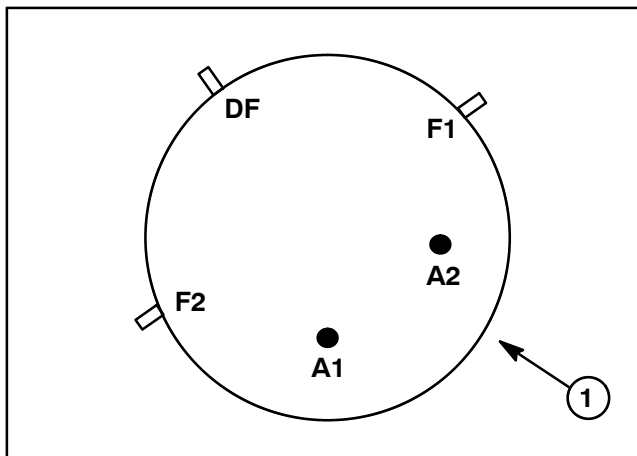

Figure 16
3. Measure resistance between each terminal (Fig. 16) and ground. The meter reading should be infinite.